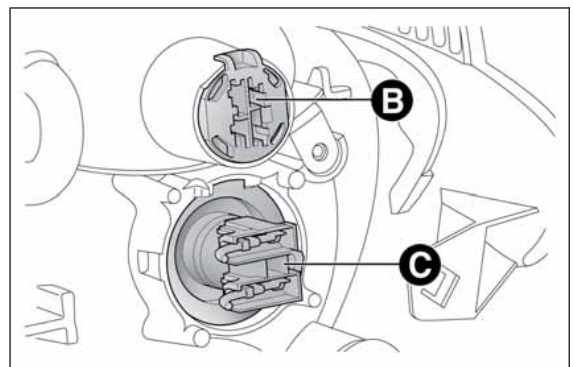

fig. 133
- remove bulb holder B fig. 133, remove the bulb and replace it;
- remove bulb holder C fig. 133, remove the bulb and replace it;